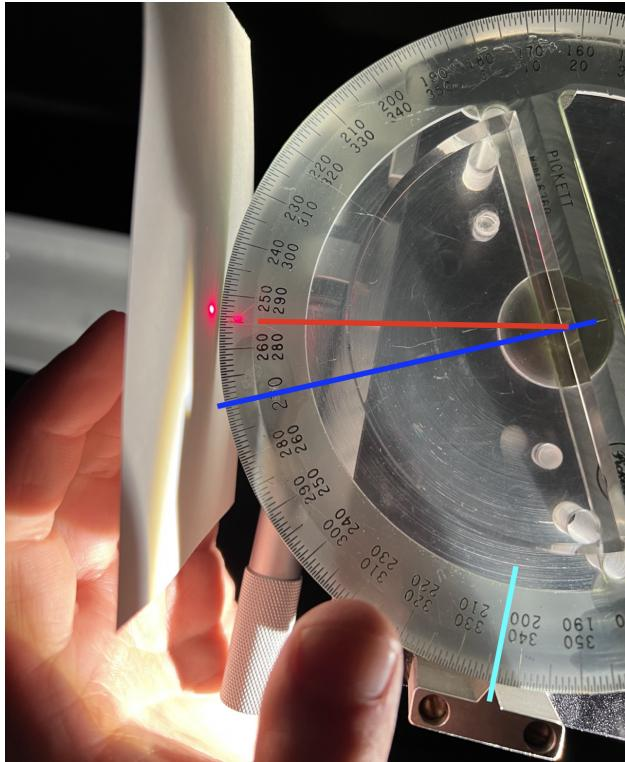

Figure 16
Begin by mounting the lens flat on the optical stage. The lens has extrusions allowing the it to be fixed in place. Follow the alignment procedure outlined in Section 2. Figure 16 shows how refracted angles can be measured using an index card. The dark blue line represents the surface normal, and the red line is the refracted beam. The cyan line is related to the incident angle, set by the user.
6. (2 pt) Measure the refracted angles for each incident angle. Use an index card as shown in Figure 16. Do one direction first, then switch to the other. Determine your uncertainty in the refracted angles. Note: the standard error is the uncertainty in the average angle measured. If this number is zero, the uncertainty is the *minimum* uncertainty associated with the protractor.